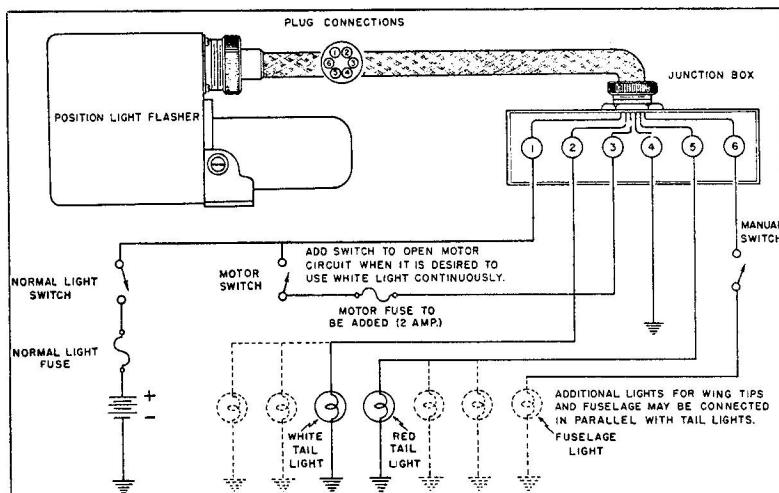

Figure 3-4 - Installation Diagram - Flasher Assemblies 452061 And 452062
4. Inasmuch as these assemblies provide for an additional white light which is lighted when the motor is slowed or stopped, the connector employs a six-wire lead instead of a five-wire. A wiring diagram for these assemblies is shown in figure 3-4.